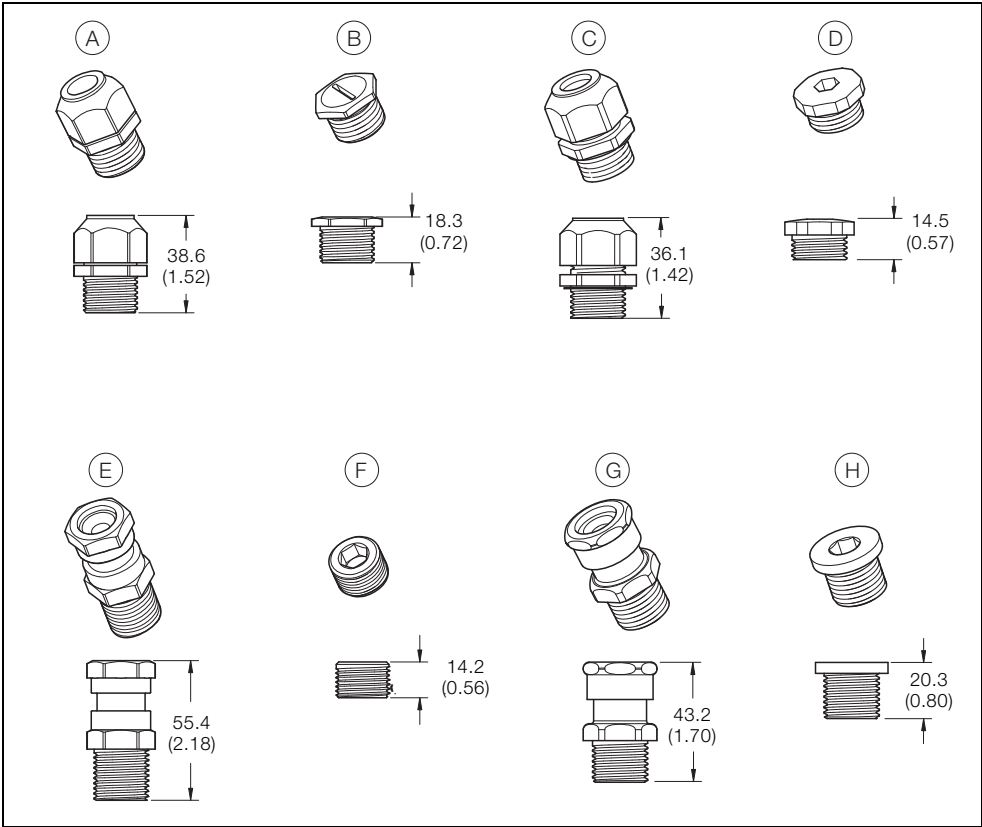

Fig. 4.1 Cable Glands and Plugs
- 2. Route the sensor wiring through one of the three threaded connections in the transmitter housing and use an appropriate gland (refer to Fig. 4.1, page 27 for gland options). Note, a cable gland must be used.